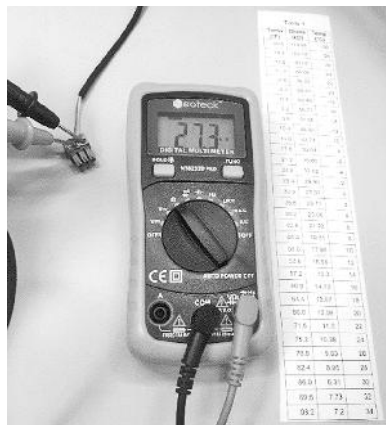

Figure 3
- 1) Use a multimeter and set it to the resistance (Ω) setting. See Figure 3.